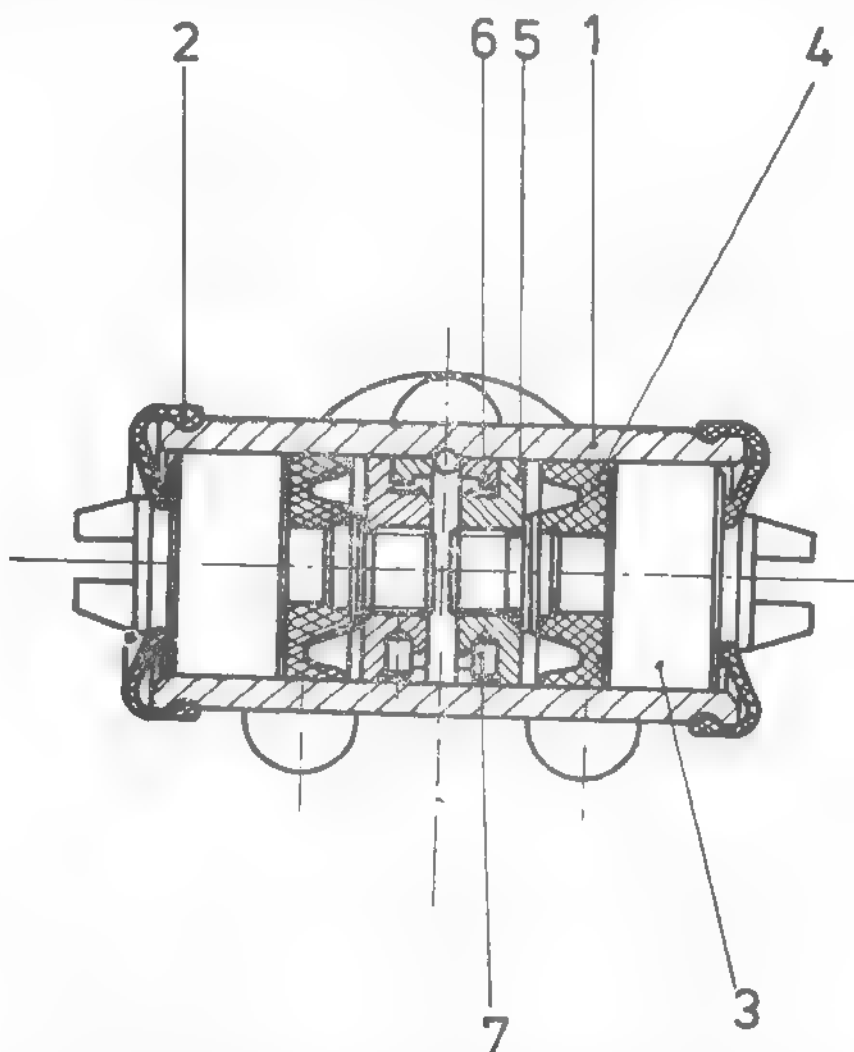

Fig. 4.137. REAR BRAKE CYLINDER
- Dismantle respective brake cylinder, by removing successively: brake cylinder boot, brake piston, piston cup (4) - (see Fig. 4.137).